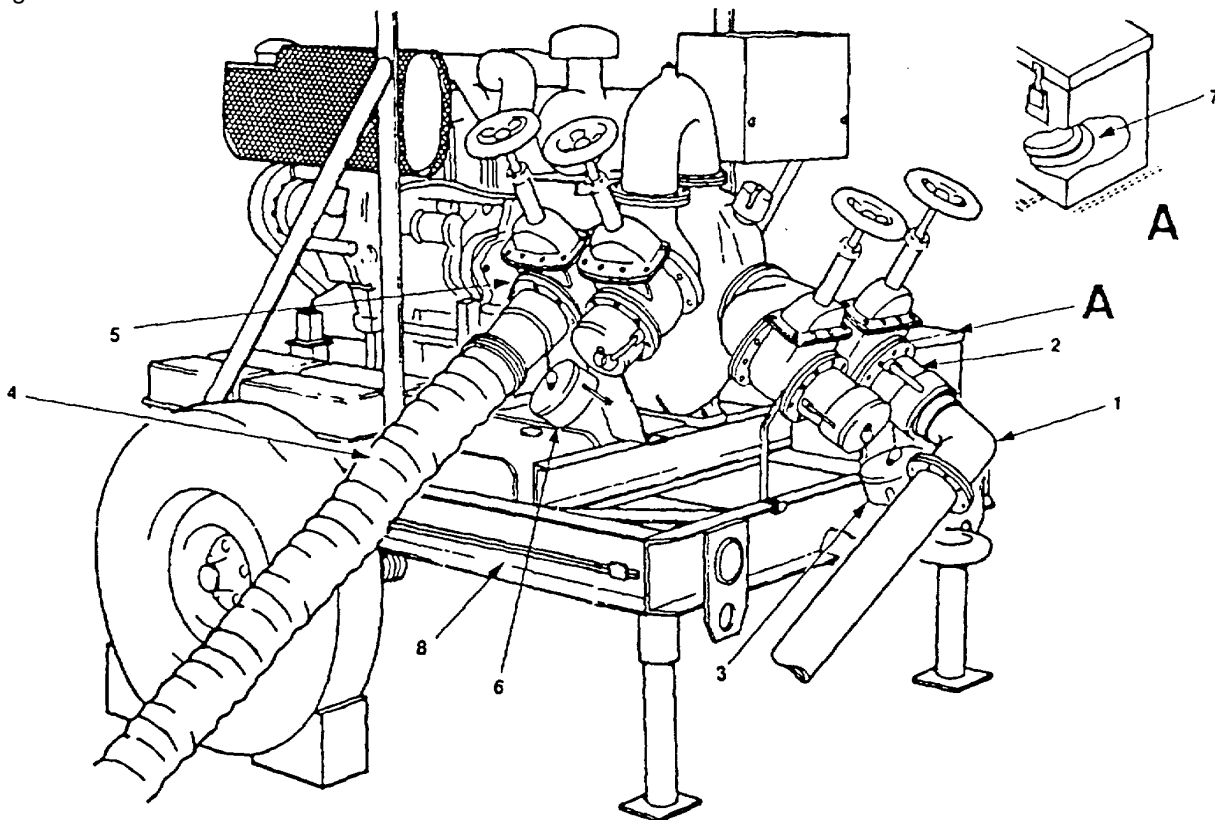
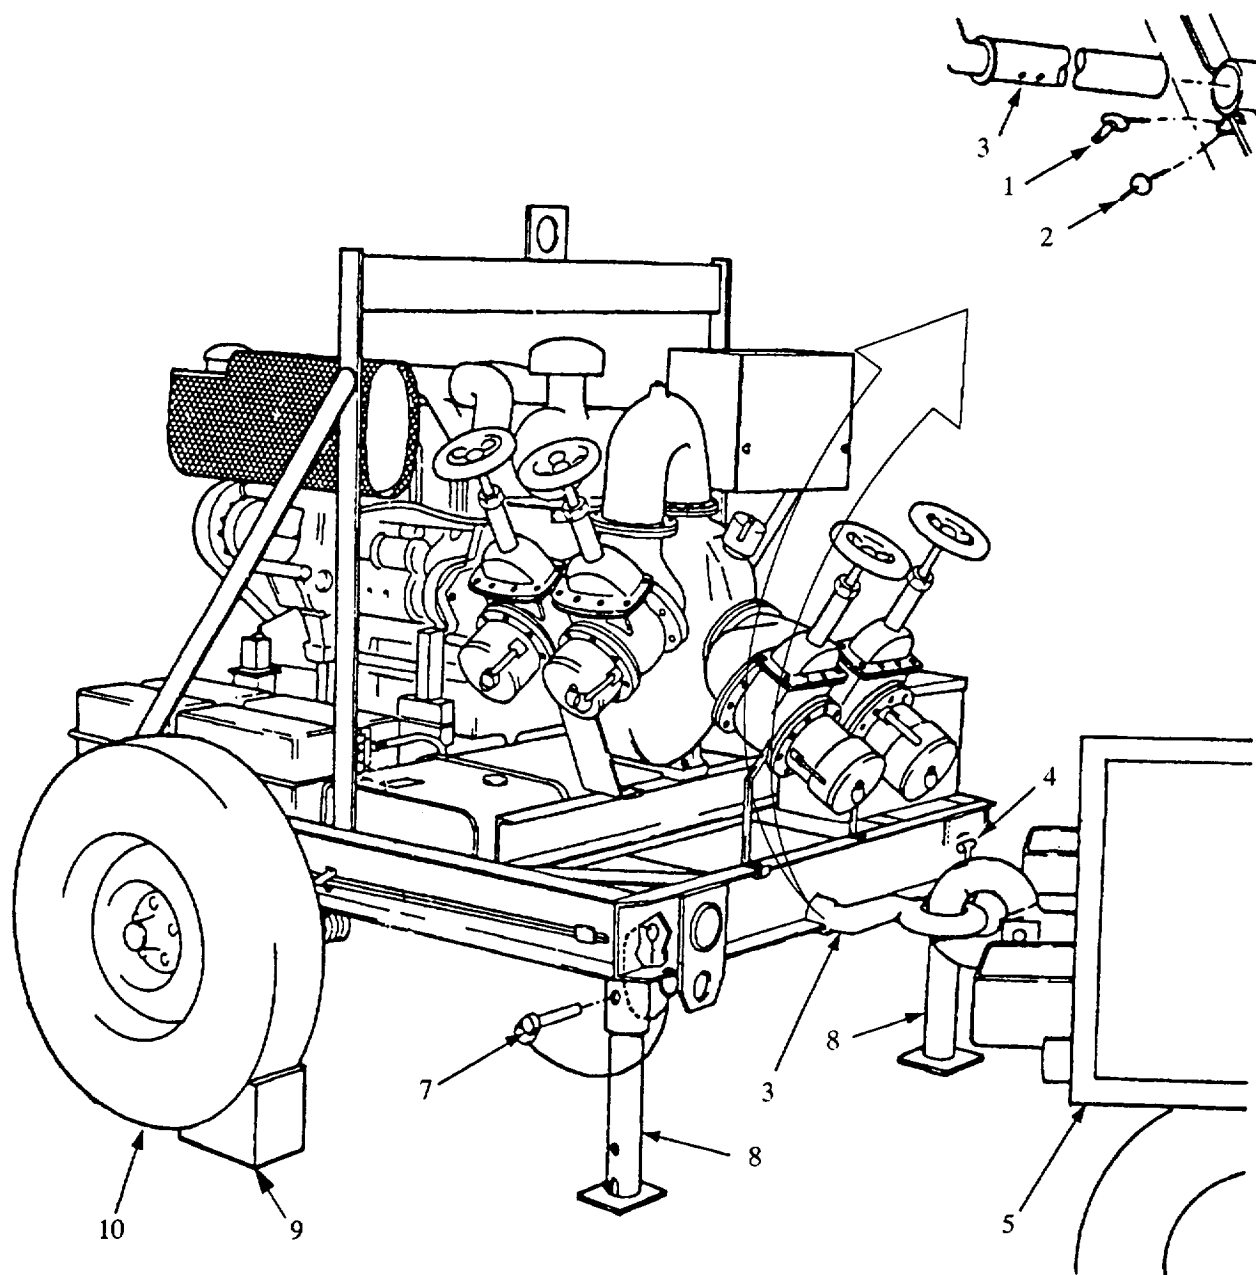

Figure 2-9. Disconnecting Suction and Discharge Hoses.
Figure 2-10. Preparation for Movement.
- b. Disconnect suction hose (1, figure 2-9) from coupler half (2) and connect quick disconnect plug (3) to coupler half (2).
- c. Disconnect discharge hose (4) from coupler half (5) and connect quick disconnect cap (6) to coupler half (5).
- d. Remove ground cable and store in tool box (7).
- e. Remove ground rod and store on frame (8).
- f. Remove quick release pins (1 and 2, figure 2-10) from tongue(3) and extend tongue extension to full length.
- h. Release pintle hook (4) and connect pumping assembly to towing vehicle (5).
- i. Attach and secure 350 GPM Pumping Assembly to towing vehicle (5).
- j. Remove pins (6 and 7) and push upward on trailer support legs (8) until holes align with mounting holes for pins (6 and 7).
- k. Reinstall pins (6 and 7) to secure trailer support legs (8) and remove chock (9) from wheel (10).